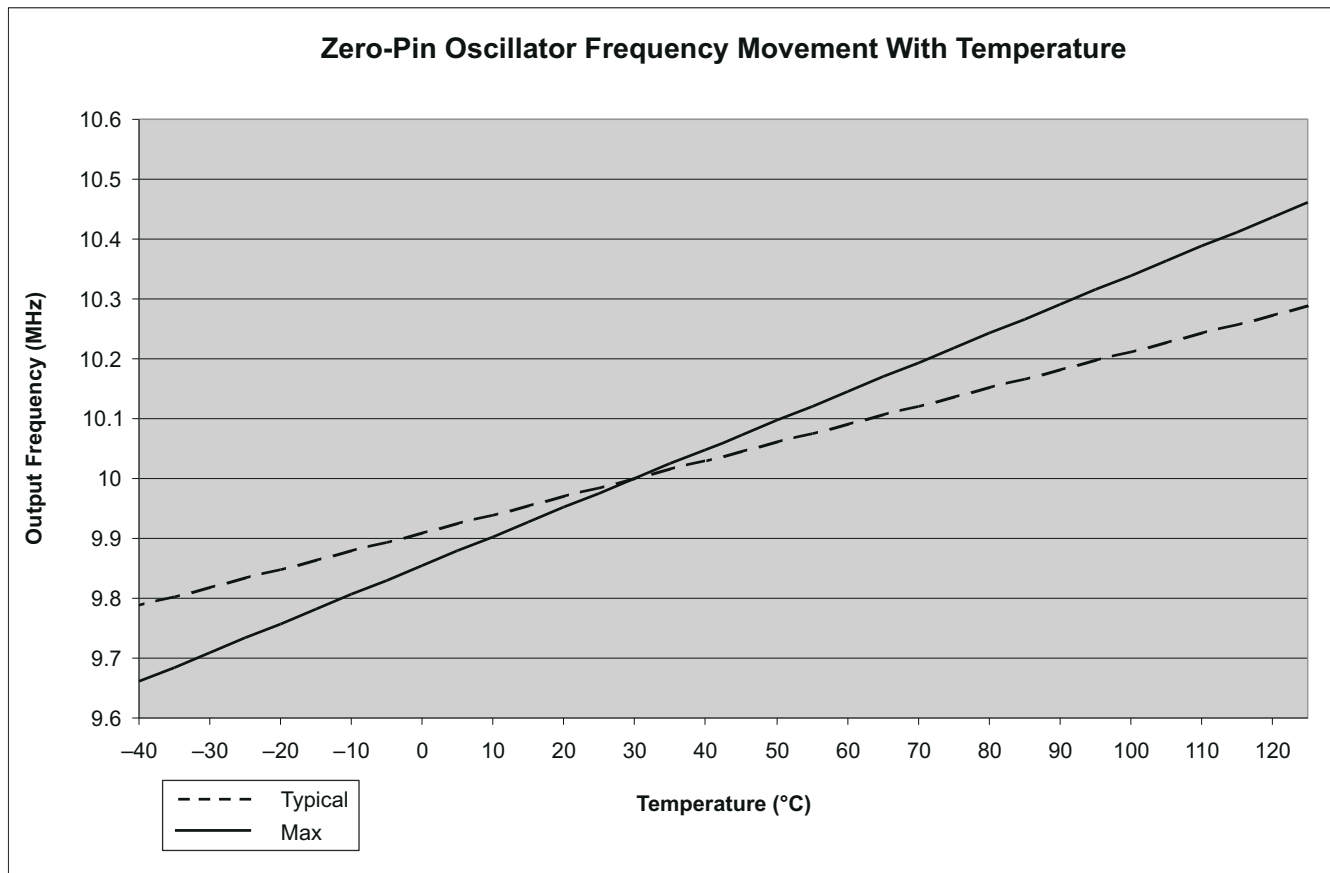

图 7-9. Zero-Pin Oscillator Frequency Movement With Temperature
- (1) Oscillator frequency will vary over temperature, see 图 7-9. To compensate for oscillator temperature drift, see the Oscillator Compensation Guide and C2000Ware.
- (2) Frequency range ensured only when VREG is enabled, $\bar{V}REGENZ = V_{SS}$.
- (3) Output frequency of the internal oscillators follows the direction of both the temperature gradient and voltage (V_{DD}) gradient. For example: